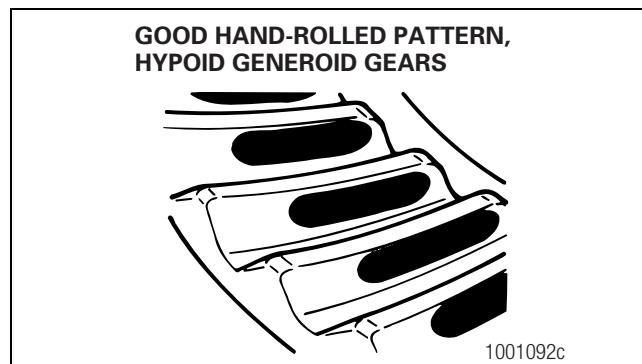
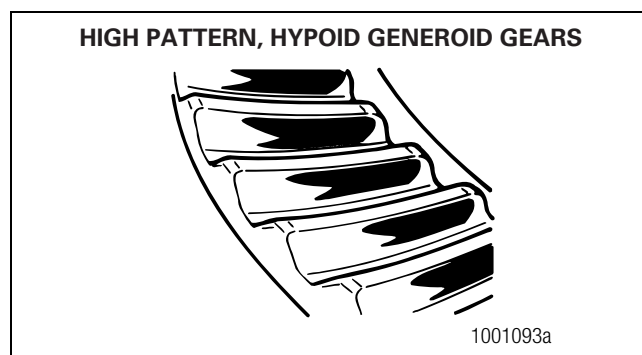
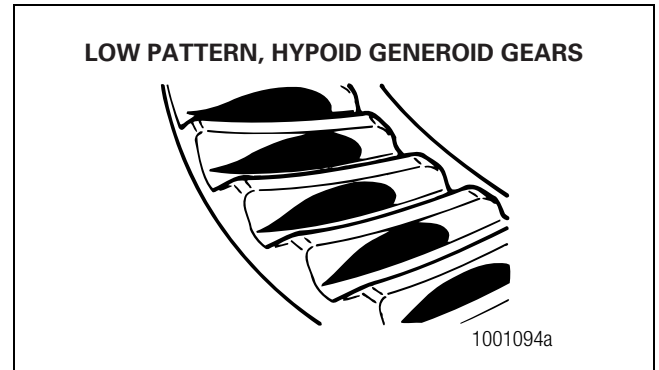

Figure 5.68
Figure 5.69
Figure 5.70
4. Look at the contact patterns on the ring gear teeth. Compare the patterns to Figure 5.68, Figure 5.69 and Figure 5.70.
The location of good hand-rolled contact patterns for new conventional and generoid gear sets is toward the toe of the gear tooth and in the center between the top and bottom of the tooth. Figure 5.68.